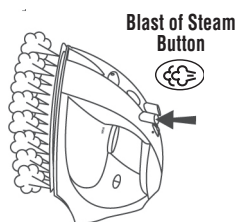

FIGURE 8
3. Hold the Iron upright so that the Soleplate is 7-15 inches (18-38 cm) away from the garment or material. Press the Blast of Steam Button once, then release (see FIGURE 8). It may be necessary to press the Blast of Steam Button 2-3 times successively to release the initial burst. DO NOT HOLD THE BLAST OF STEAM BUTTON DOWN.